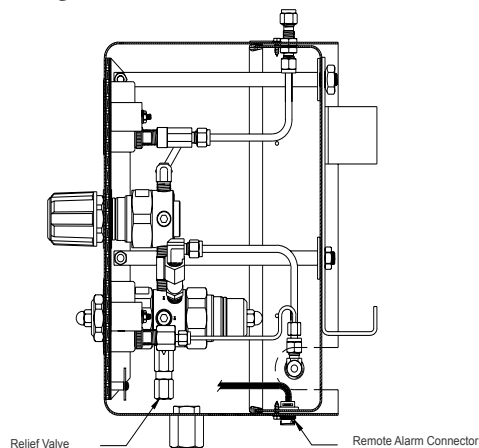

Figure 2
- d. Relief valve: The purpose of the relief valve is to protect the autoswitch system and its components only (Figure 2). If there is pressure sensitive equipment downstream of the autoswitch system, it is recommended that an appropriately sized relief valve be installed in the line to protect this equipment.